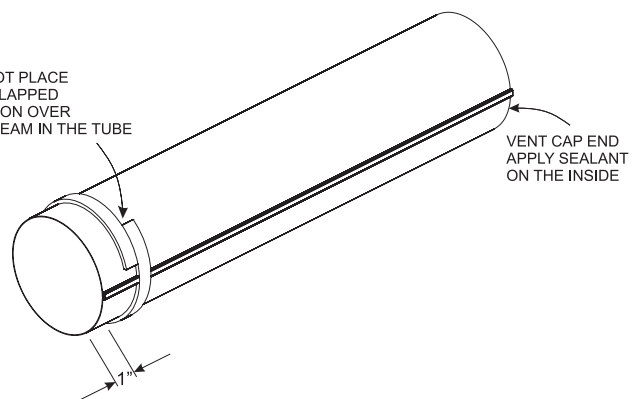

Figure 54
12. Seal the 4" (102 mm) diameter flue outlet tube. Follow instructions and diagram. See **Figure 54**.
If the air inlet and flue outlet tubes are to be connected directly to the unit (no rigid venting system is being used), then the gasket provided must be used to seal the 4" (102 mm) flue outlet tube. Peel the paper off the self-adhesive gasket and then wrap it around the end of the tube (if tube was cut, it is recommended to use cut end) as shown in **Figure 54**. Pull the gasket tight at all times while wrapping it around tube. The gasket ends should align, to form a complete seal. The overlapped section should NOT come in contact with the seam in the tube. Apply high temperature sealant to the opposite end of the tube (on the inside of the tube). The end with the gasket will attach to the back of the unit. Continue with Step 13.